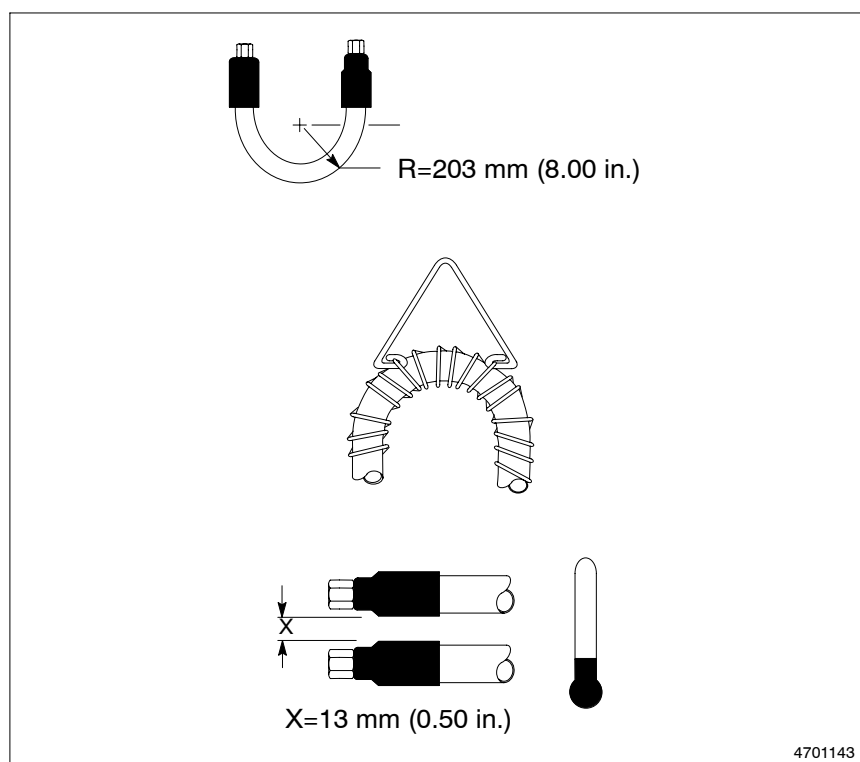

Fig. 3-7 Adhesive Hose Installation Guidelines
1. See Figure 3-7. Route the hose from the drum melter to the production work station in accordance with the following guidelines: